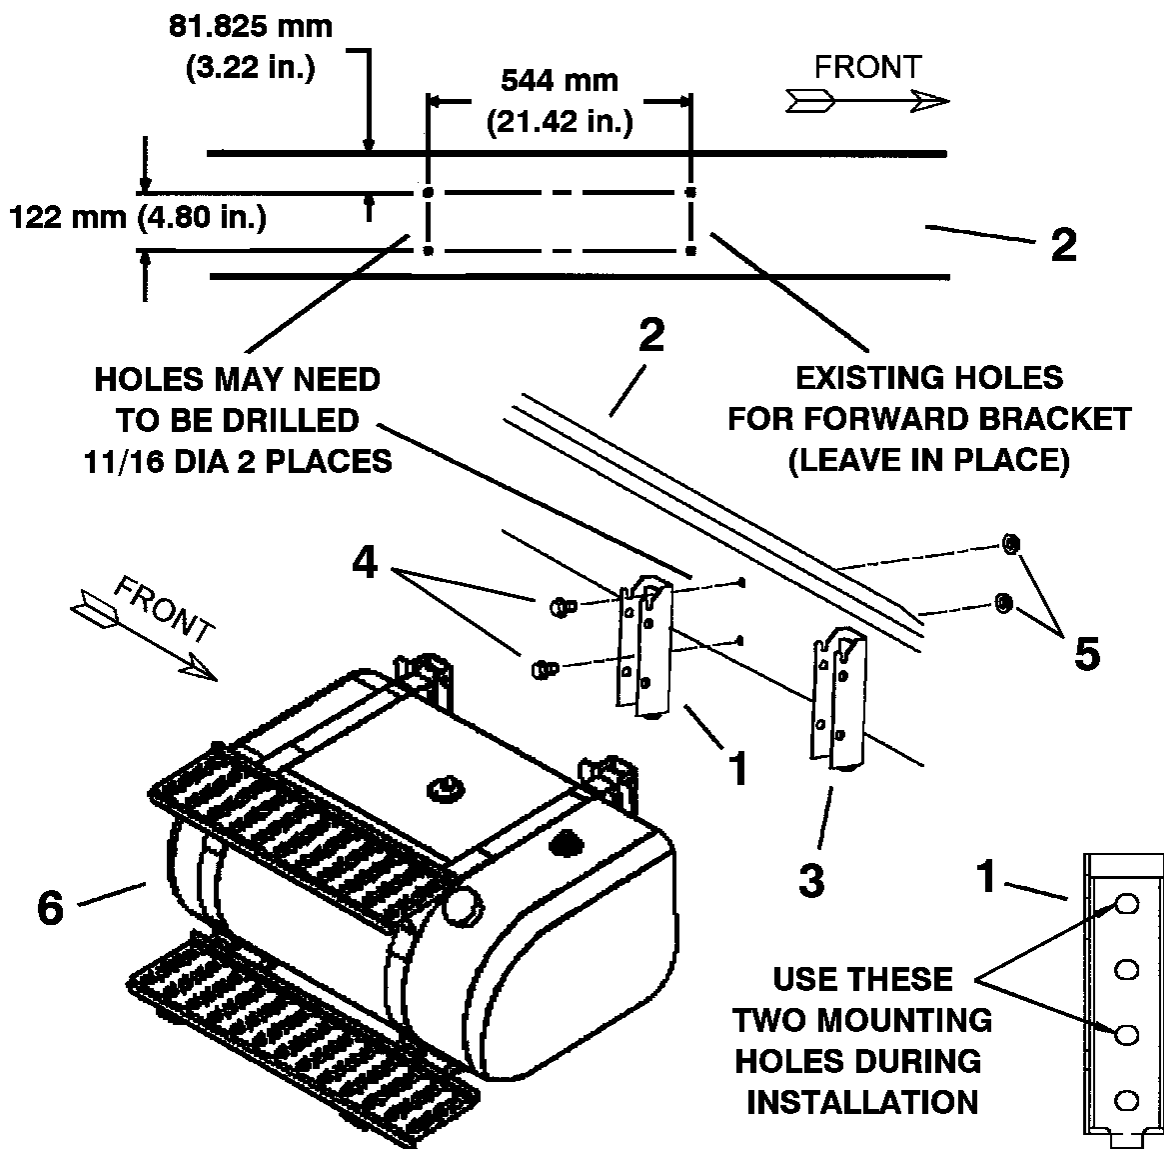

Figure 4 Drilling Rear Fuel Tank Mounting Bracket Mounting Holes and Installing Rear Fuel Tank Mounting Bracket
Refer to Figure 4 for items in parentheses.
2. Refer to diagram in Figure 4 for the locating dimensions for the two 11/16 diameter mounting holes in the frame rail for the new rear fuel tank mounting bracket (Item 1).